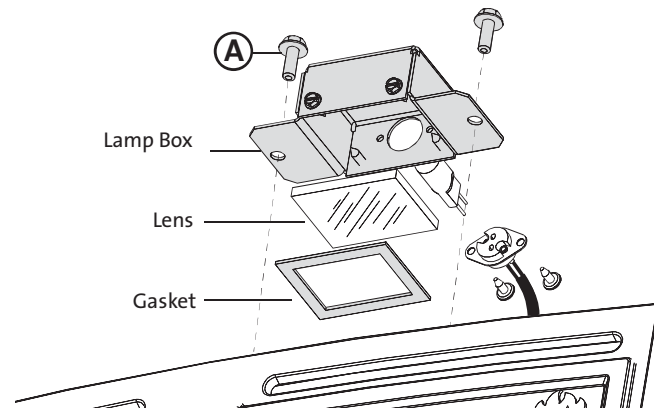
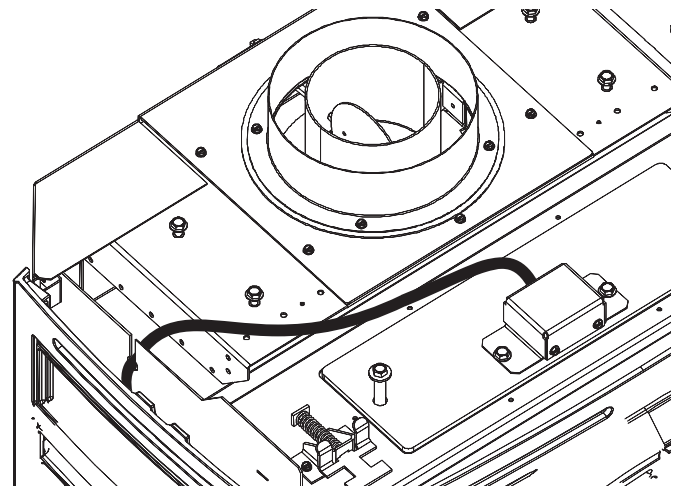

Figure 42. Accent Lamp installation.
Figure 43. Accent Lamp Harness routing.
2. Remove the two flanged hex head bolts (A) and cover plate from the Relief Panel using a 10 mm socket or wrench. See fig. 42.
3. Position the Gasket, Lens, and Lamp Box over the opening on the Relief Panel using the two bolts (A) previously removed.
4. Route the controls wire harness over and down between the heat shield and the left cast iron side. Connect the harness to the (L) terminal on the rear of IFC board. See figs. 43 - 44. *Loosen the IFC board wing nut and pull the board back to improve access to the terminal.*